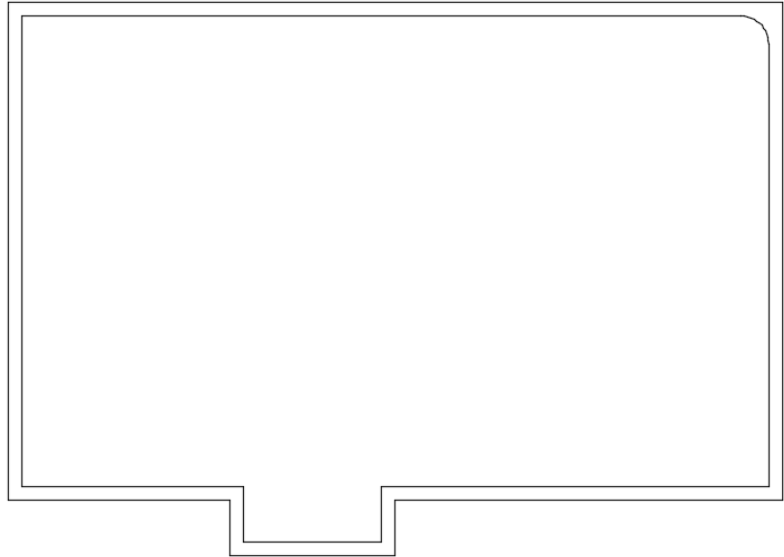

FIGURE 4.11: The first corner is filleted.
9. Select any two polyline segments that share a corner of the inner box. The two segments are shortened, and a curved segment with a 12" radius is inserted. The polyline now has nine contiguous segments (see Figure 4.11). The FILLET command automatically ends after each fillet.